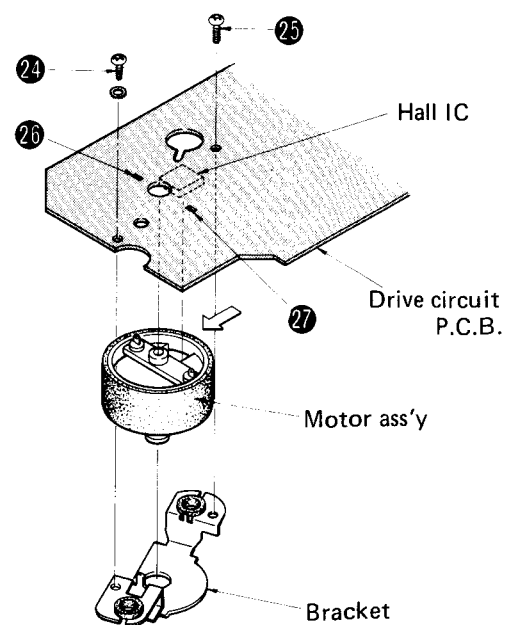

Fig. 4
3. Disengage the motor bracket fitting screws ㉔, ㉕ and disconnect the soldered motor terminals ㉖, ㉗ then the motor can be detached. (See Fig. 4)
4. For assembling, mount the motor so as the arrow on Fig. 4 comes to the position of hall IC (IC 1).